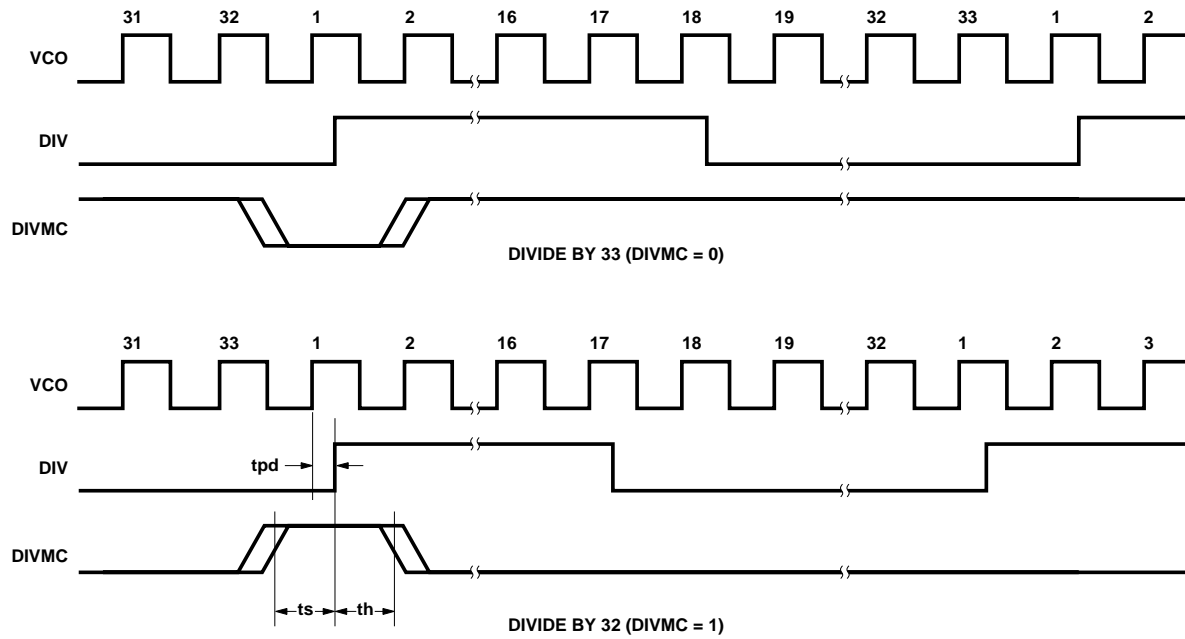

Figure 2. HPMX-5001 Prescaler Timing Diagram.
2. See Figure 2 for detailed timing diagram.
triggered CMOS synthesizers from a variety of vendors. The timing requirements for the prescaler are shown in Figure 2. It is important to note that the prescaler divides the VCO signal, and not the frequency doubler output. Local oscillator (LO) signal generation on the HPMX-5001 is accomplished through the combination of a VCO and frequency doubler. The VCO is a simple Clapp oscillator for the best possible noise performance. The VCO force and sense pins (VCOTNKF, VCOTNKS) are self-biased, so that the connections to the tank (minimum Q of 20) are through AC-coupling capacitors. VCOTNKS can also be used with an injected LO. VCOTNKF would then be left floating. The doubler circuit multiplies the VCO frequency by two. This enables the VCO to have lower sensitivity to both package parasitics and LO re-radiation. Separate bias pins and buffering are utilized to minimize pulling of the VCO when the chip is switched from synthesizer to transmit or receive mode.